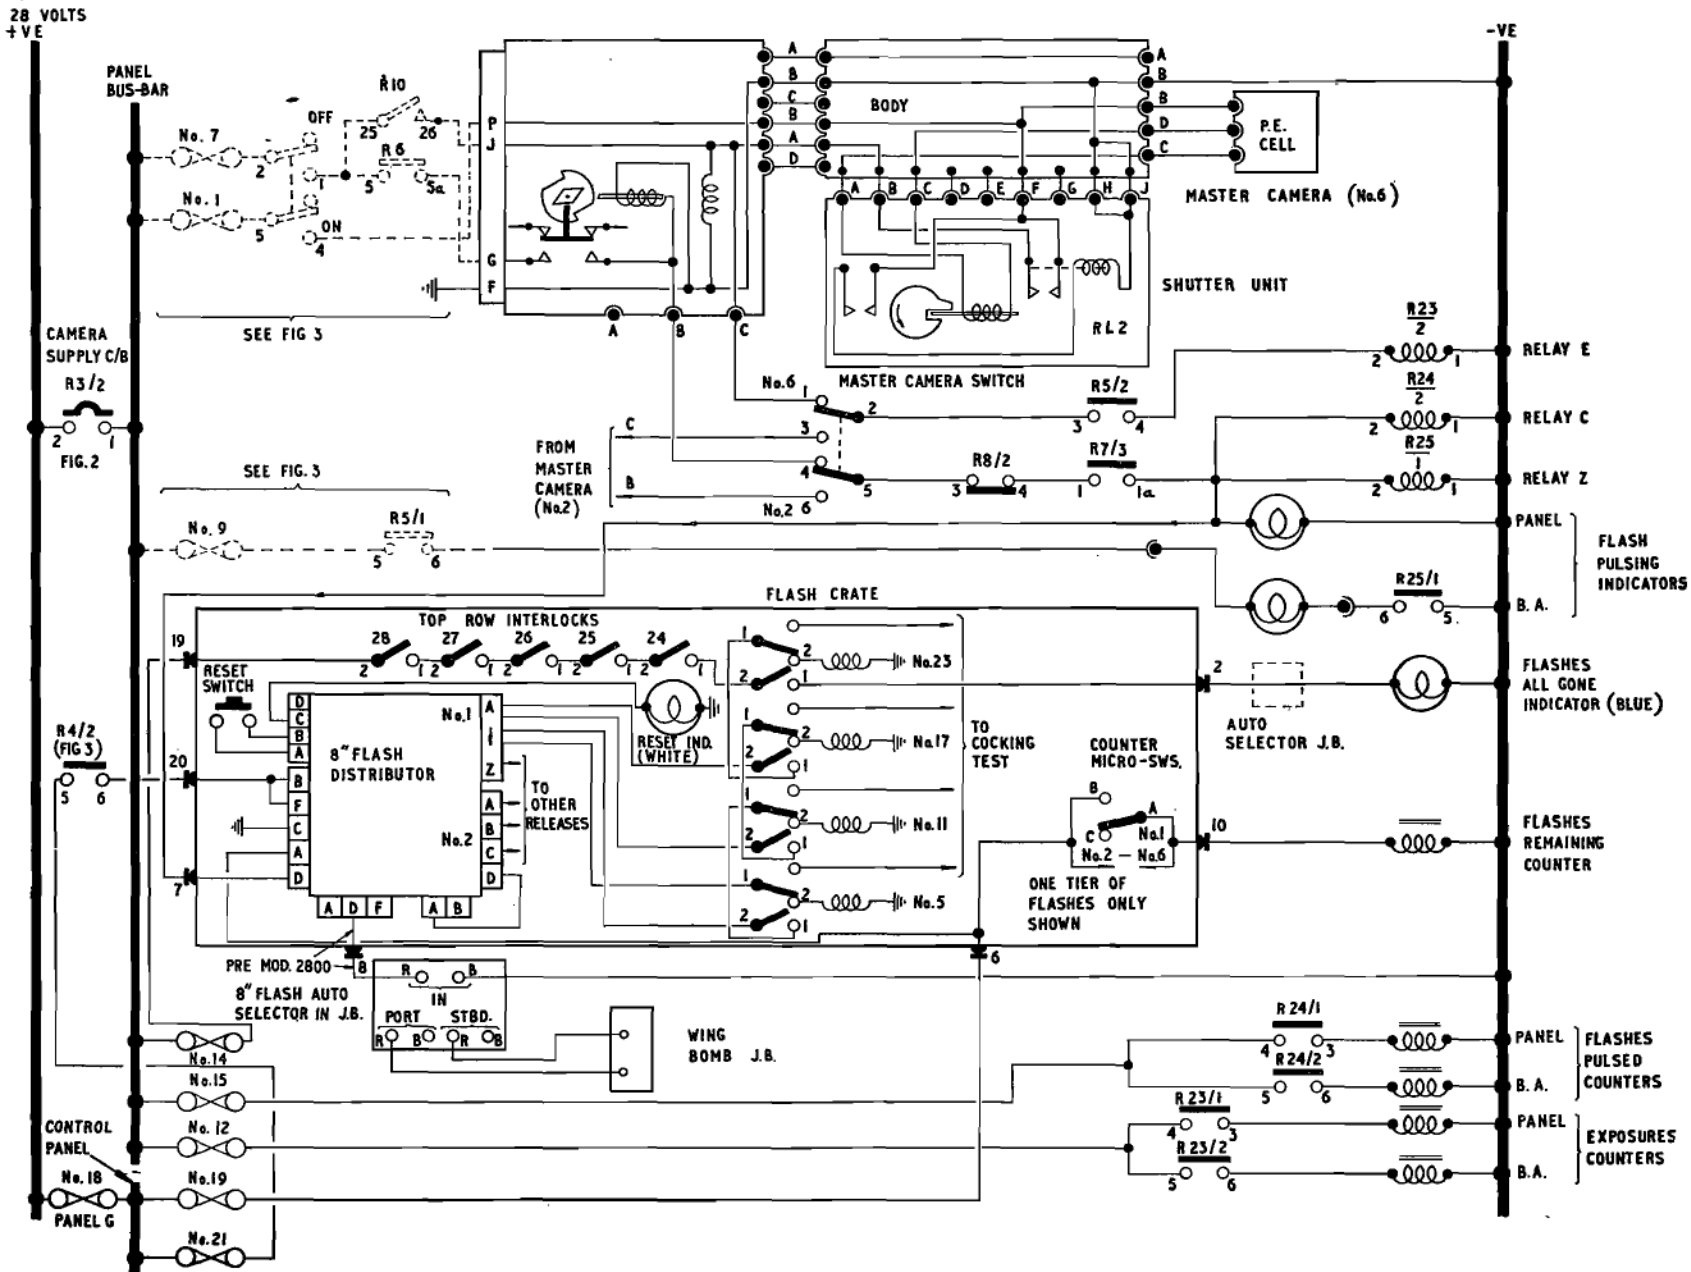

Fig. 5. Flash release
FLASH RELEASE (fig. 5)
Release pulsing (fig. 5)
Pulsing indicators (fig. 5)
Flashes pulsed counters (fig. 5)
Exposures counters (fig. 5)
Flashes remaining counter (fig. 5)
Flashes all gone indicator (fig. 5)
70. Contact R8/2 (fig. 5) of relay D opens to break the flash pulsing signal circuit between the MASTER CAMERA switch and flash distributor and the coils R24 and R25 of relays C and Z. Thus the flash release signals are isolated although the cameras are still operating and the FLASH PULSING indicator and FLASHES PULSED counters are isolated.